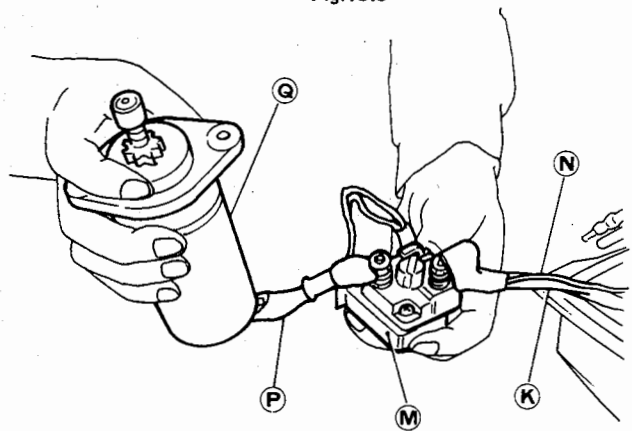
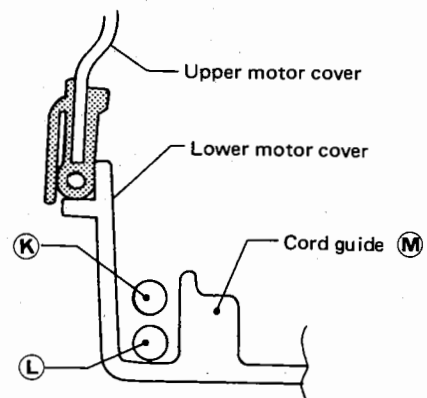

Fig.13.9
Fig.13.10
- Secure the cable (-) (L) -black) to the #1 bolt on the exhaust cover.
- Route the cable (+) (K) -red) to area close to starter solenoid (M). Install starter terminal cap (P) on both the cable and fuse lead wire terminal (N). Then temporarily tighten the cable at the starter solenoid.
- Connect capped starter cord (P) to the terminal of starter (Q). (Fig.13.9 and Fig.13.10)